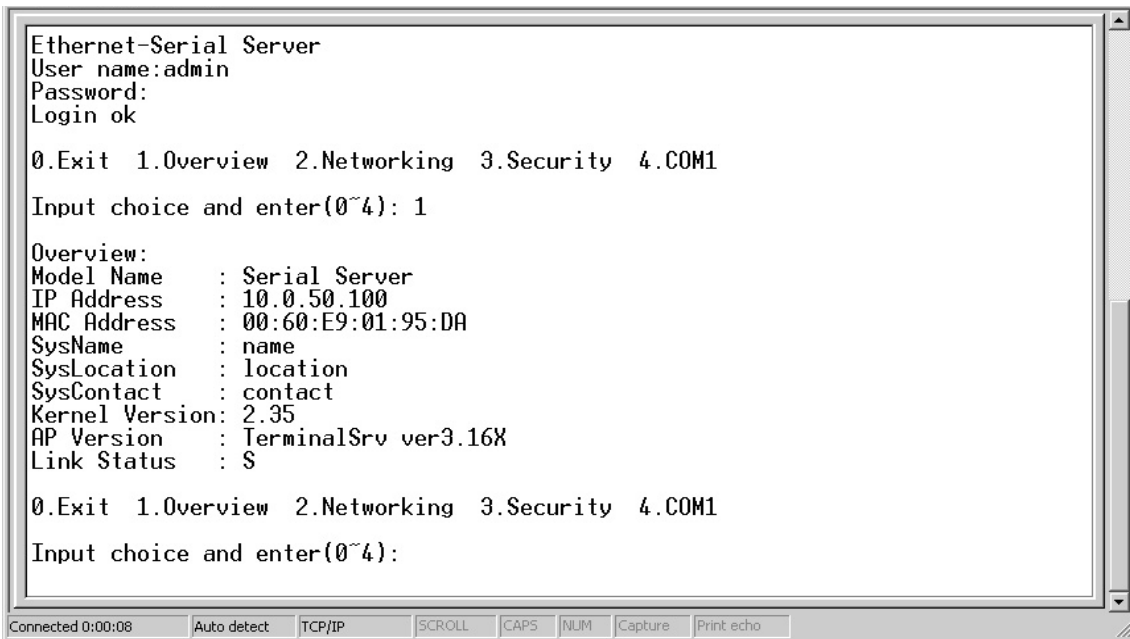

Figure 3.6 Overview
->Select "1" from "**Input choice and enter (0~4):**" to enter overview page as following:(Figure 3.6)